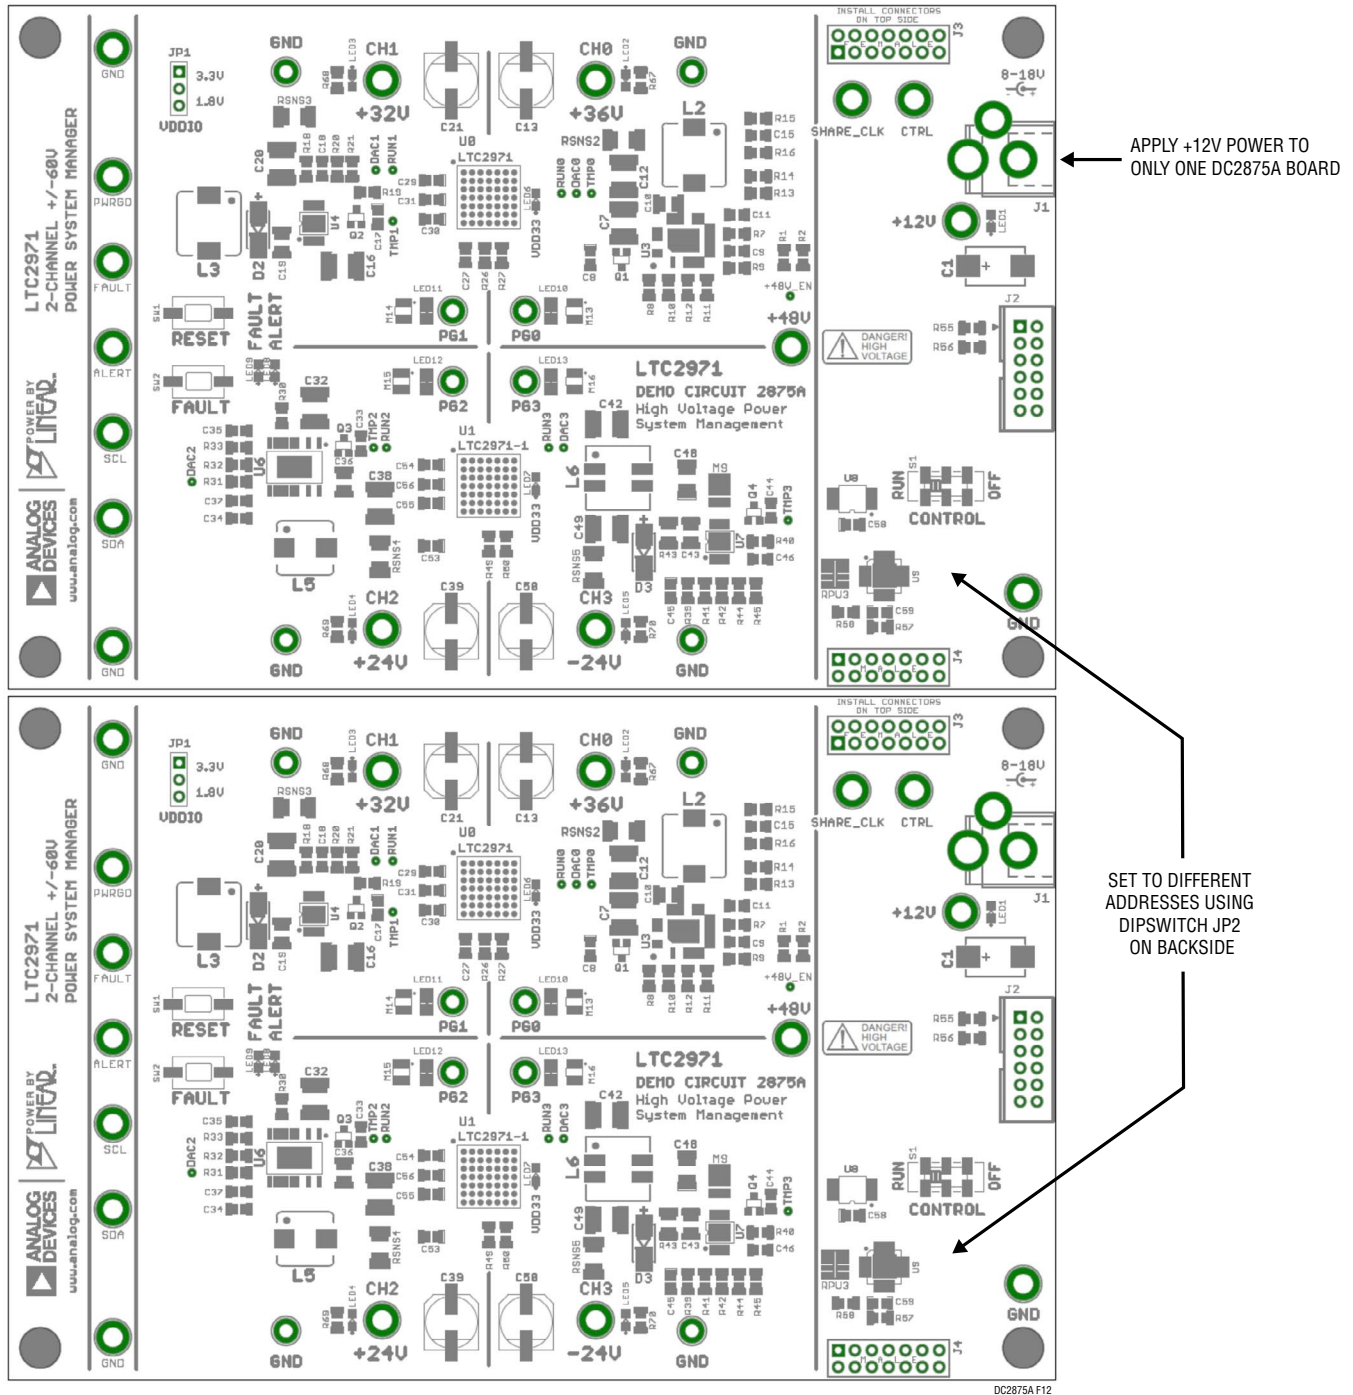

Figure 14. Array of Multiple Board Sets
3. Plug in the $+12\text{V}$ V_{IN} power into one of the boards as shown in Figure 14. Only one $+12\text{V}$ power source is allowed.